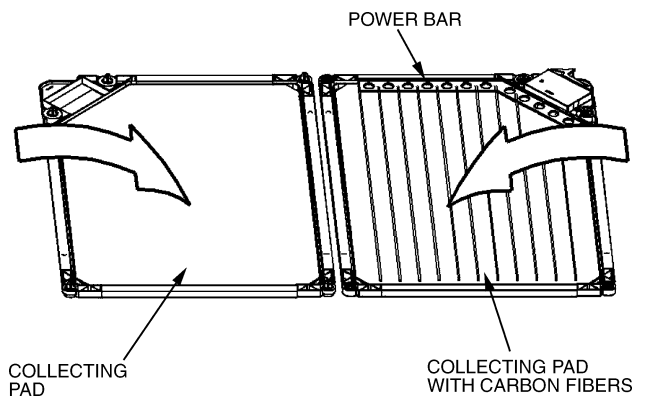

Fig. 8 — Install Replacement Collecting Pads
7. Install new collecting pads. Place power bar over collecting pad with carbon fibers. The power bar must be in contact with the carbon fiber collecting pad in order for the electronic air cleaner to operate correctly. See Fig. 8. Never wash the collecting pads.